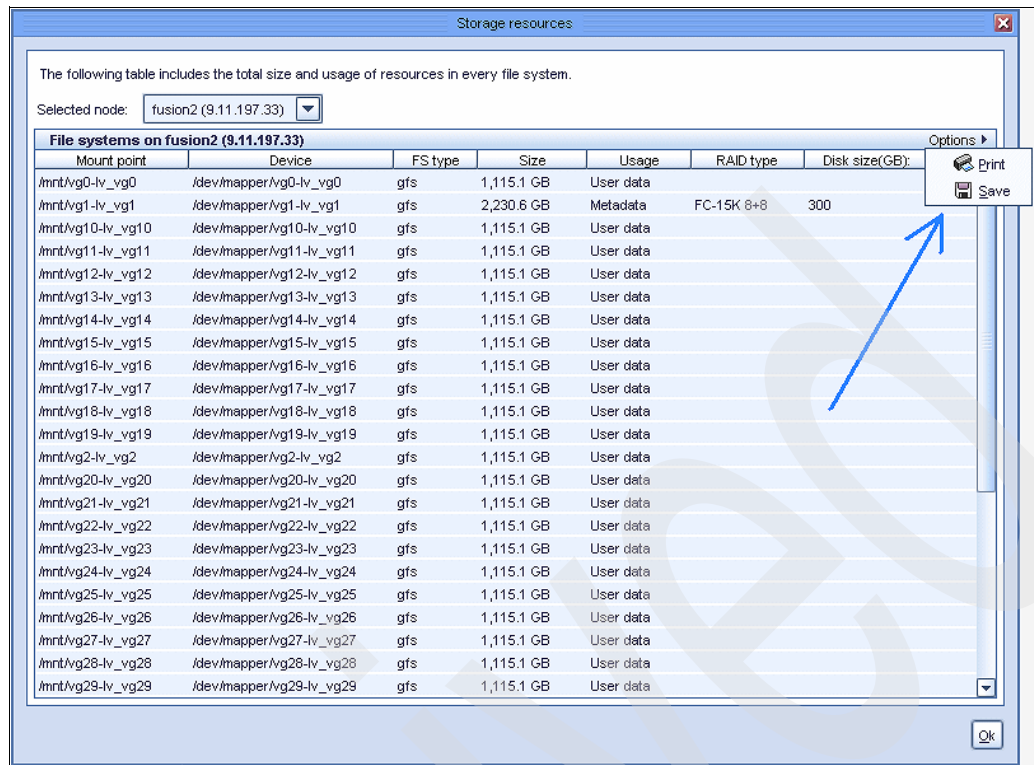

Figure 6-29 PT Manager_View Repository Resources_options
- To print the information in the View Resources table, or to save the information as a .csv file, click **Options**; see Figure 6-29.